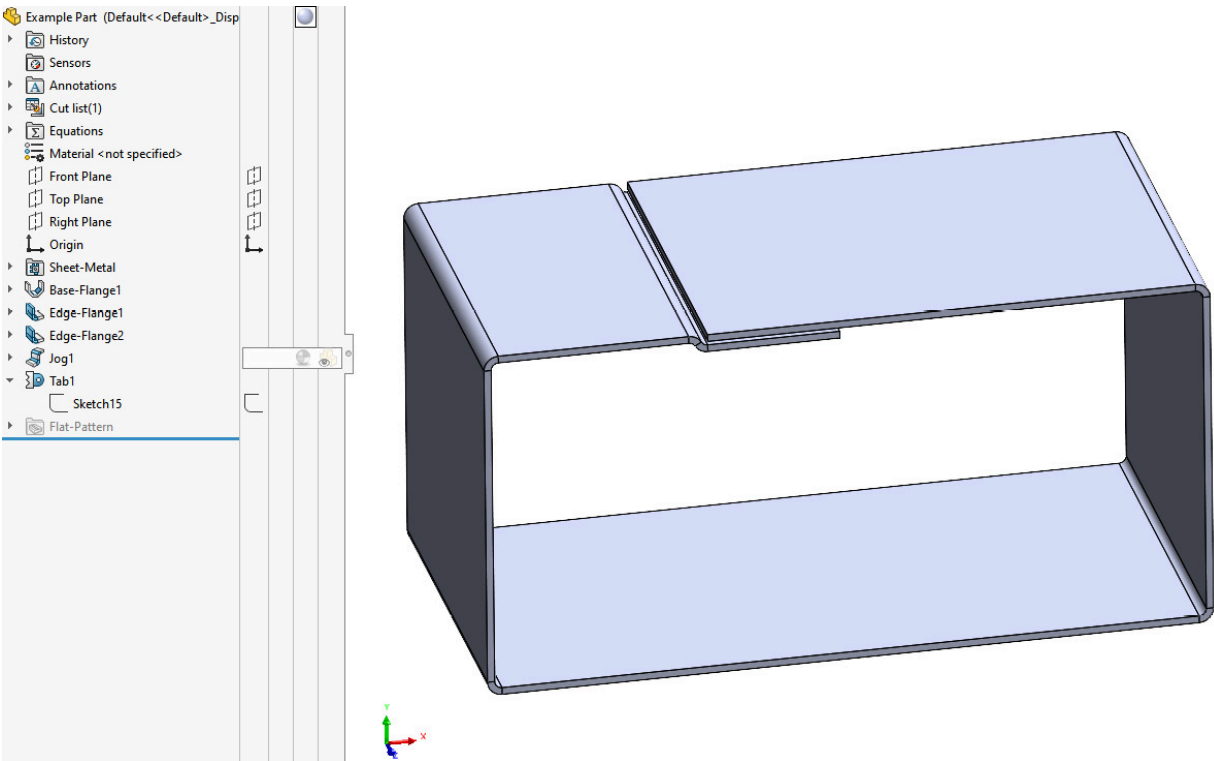

Figure 3.32: Creating an overlapping section using the Tab tool
14. Use the **Base Flange/Tab** option to create an overlapping **Tab** section (*Figure 3.32*). This overlapping area could then be used with rivets or bolts to join the two flanges together, or it could be spot welded: